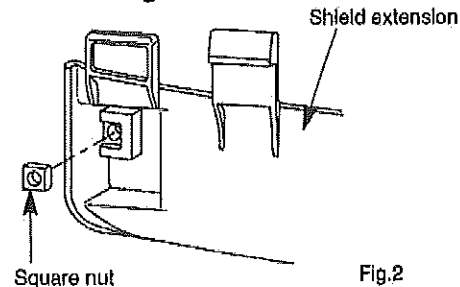
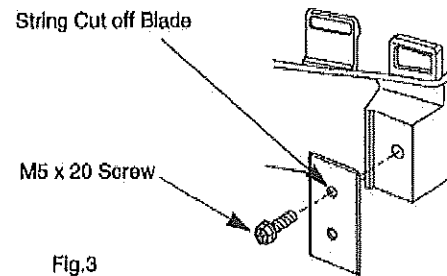

Fig.2
Fig.3
1. Insert the square nut into shield extension as shown on Fig. 2.
2. Attach the String Cutoff Blade to shield extension using M5 x 20 Screw, locking with square nut (on Fig.2) as shown on Fig. 3.